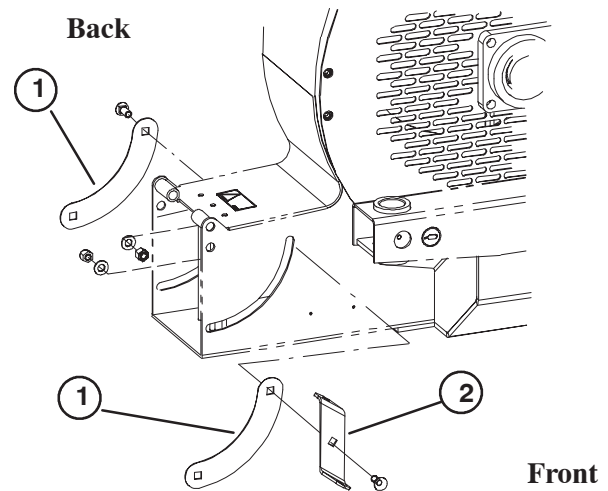

Figure 3
3. Using (2) 3/8-16 x 7/8" carriage bolts, .406 x .813 flat washers and 3/8-16 locknuts, mount a cover plate and spring mount bracket to slot in front of blower discharge chute (Fig. 3).
4. Using (2) 3/8-16 x 7/8" carriage bolts, .406 x .813 flat washers and 3/8-16 locknuts, mount a cover plate to slot in rear of blower discharge chute (Fig. 3).